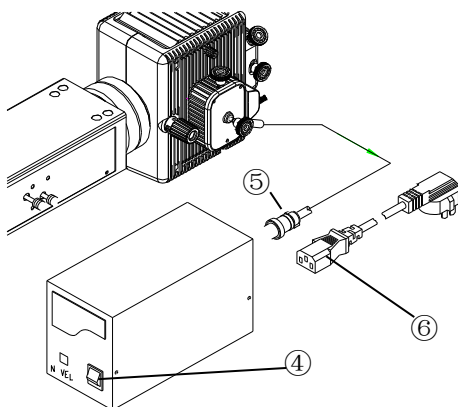
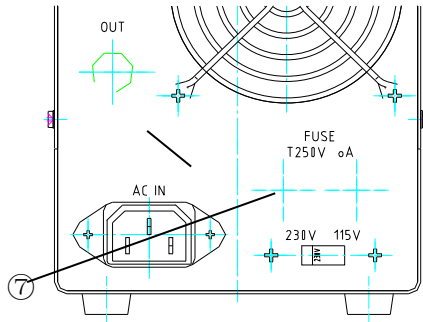

Fig. 7
Fig.8
2.6 Cable and Cord Connections (Fig.7 and Fig. 8)
2.7 Fuse Replacement (Fig.7 and Fig. 8)
- 1 Set the main switch ④ to “O” (OFF) and unplug the power cord before replacing fuses.
- 2 Using a flat-blade screwdriver, remove each of the fuses holders ⑦ by tuning it counter-clockwise and pulling out.